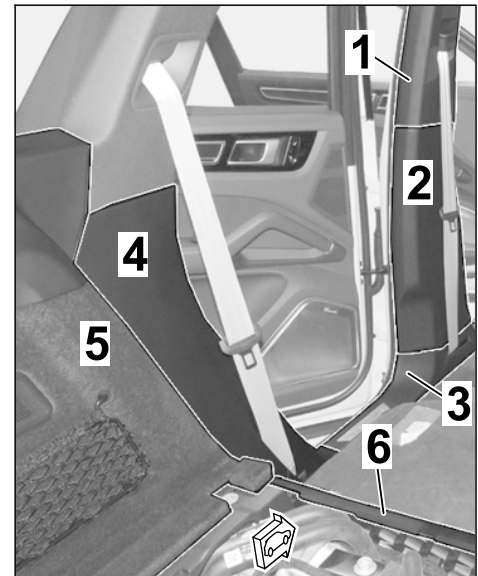

Figure 10
1.7 Expose the B-pillar area (left side) (⇒ *Figure 10*)